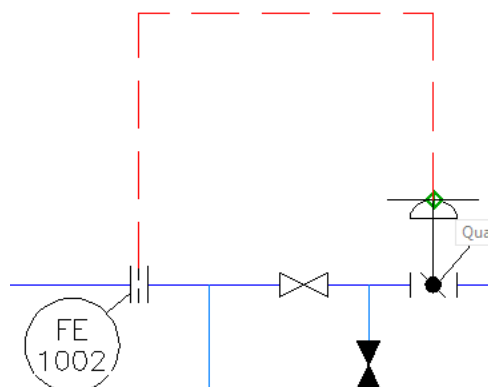

Figure 2-67 Specifying the endpoint of the electric signal line
8. Next, move the cursor downward and specify the endpoint on the control valve, refer to Figure 2-67.